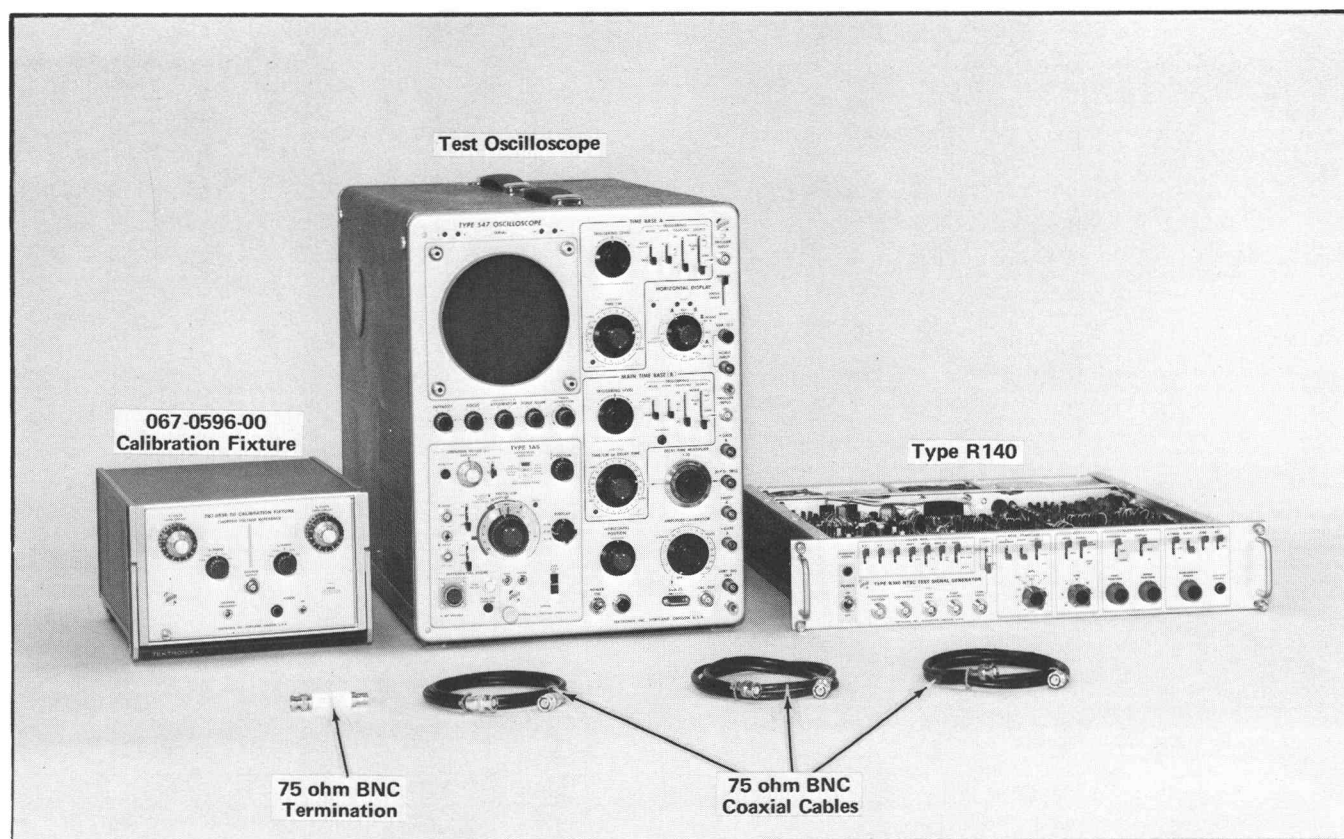

Fig. 5-21. Test equipment required for steps 19 through 40.
a. Test equipment is shown in Fig. 5-21. To determine the Type 142 and test oscilloscope control settings, first refer to the partial list that precedes this step and then, for the remaining controls, refer to the list that follows Fig. 5-1.